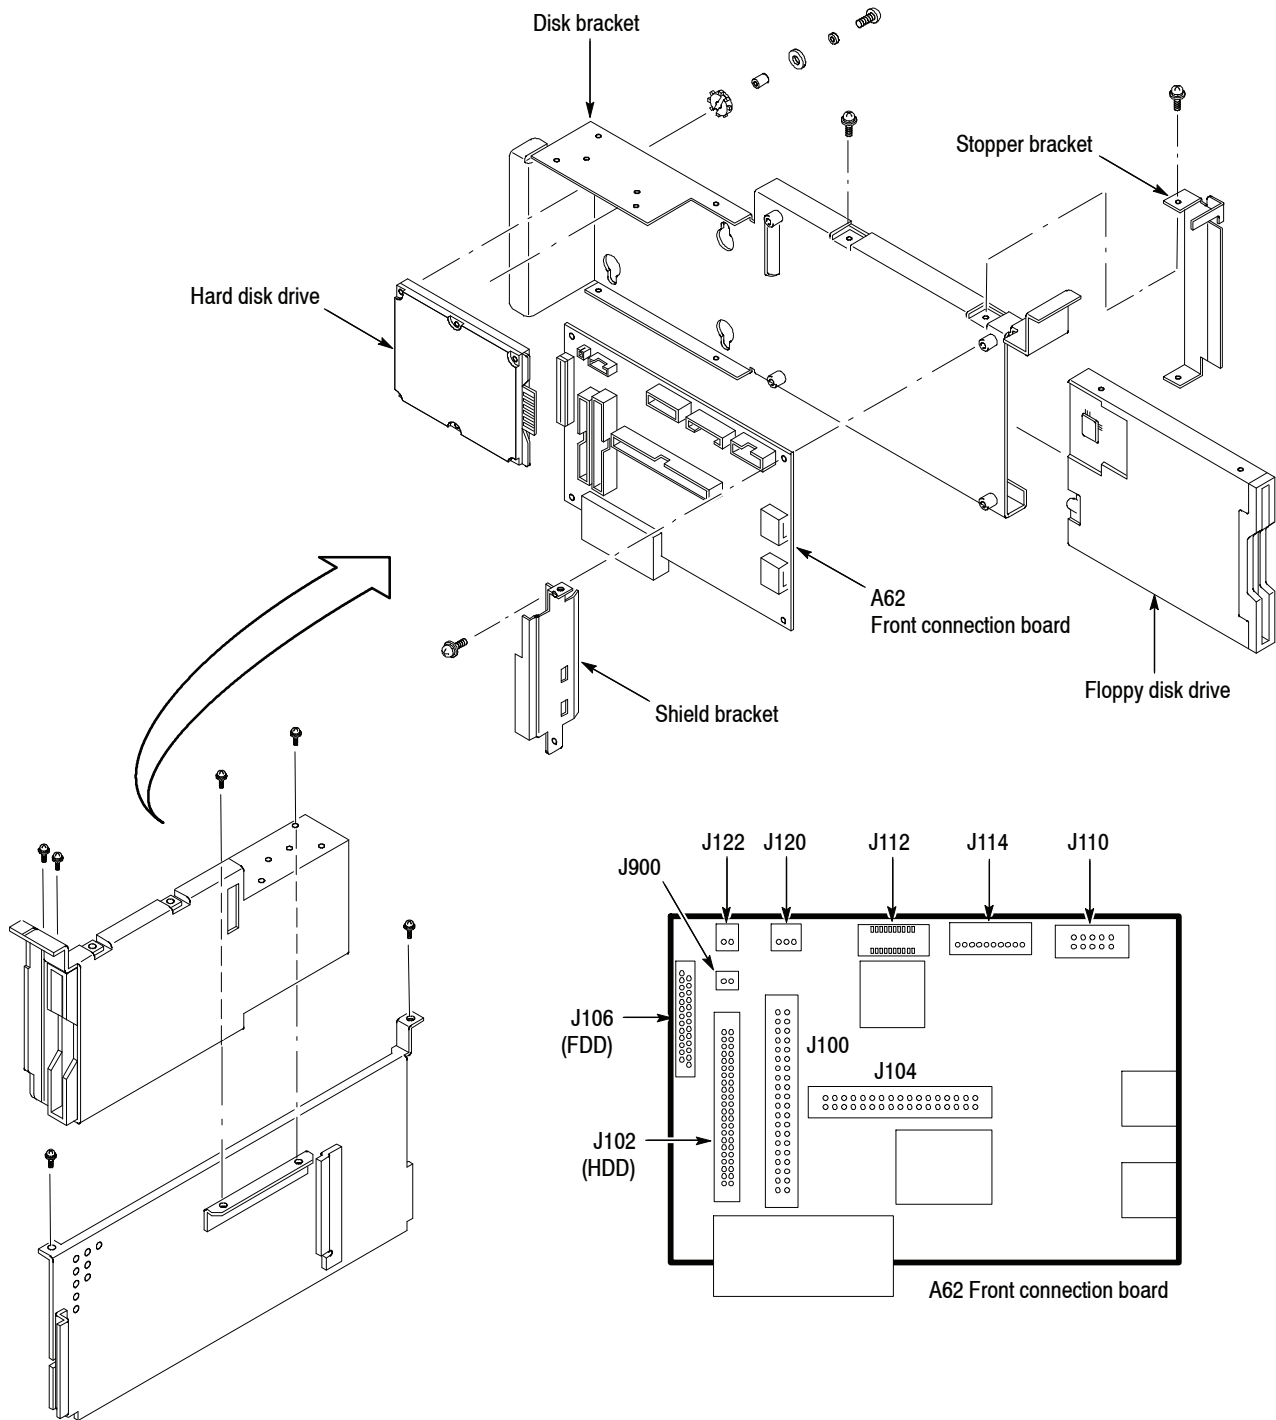

Figure 5-17: Disk module removal
3. *Orient the analyzer:* Set the analyzer so its bottom is down on the work surface and its left side is facing you.**4. *Remove the disk bracket:*** See Figure 5-17.
3. *Remove the floppy disk drive:* See Figure 5-17.
3. *Remove the A62 Front connection board:* See Figure 5-17.
- a. Unplug the hard disk cable assembly from the IDE1 connector on the CPU board and J900 on the A62 Front connection board. See Figure 5-16 on page 5-32 and Figure 5-17 on page 5-34 for the connector location.